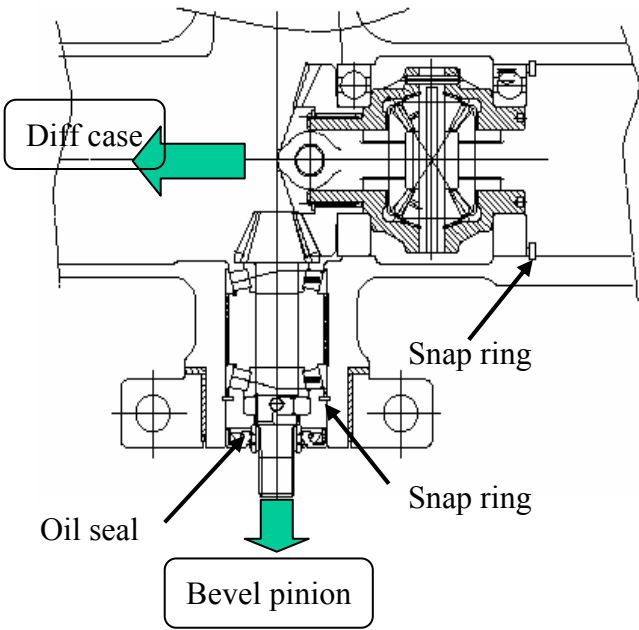

Fig.6-11
- 4) remove both final case assembly (A and B) from the front axle(Fig.6-11)
- 8) Remove the snap ring and the bevel pinion can then be removed together with the TRB's (Fig.6-11)